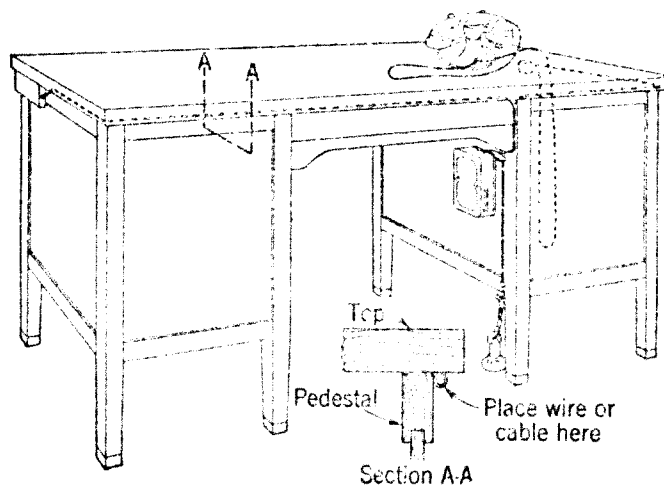

Fig. 6.
3.17 Place wire or cable on metal desks without wiring facilities as shown for wood desks, Fig. 6.